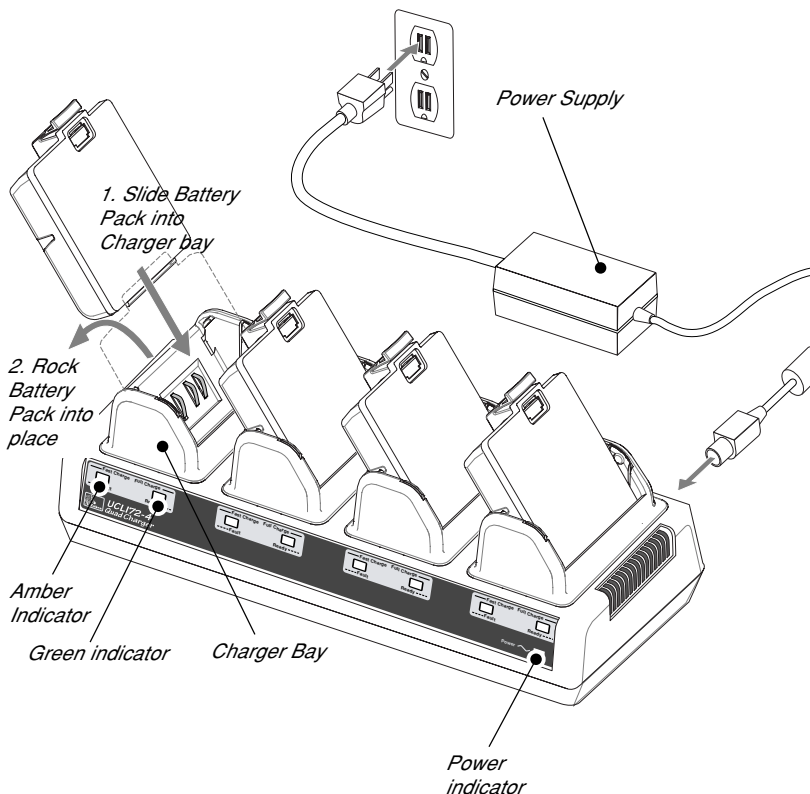

FIGURE 4: QUAD CHARGER
2. Remove any protective shrink-wrap and labels from all battery packs prior to use. Plug a battery pack into any one of the four charging bays as shown in Figure 4, noting the orientation of the battery pack. Slide the battery pack into the charging bay until it stops. Then rock the battery pack back until it snaps into place. The amber indicator directly under the battery being charged will turn on if the battery is properly inserted.